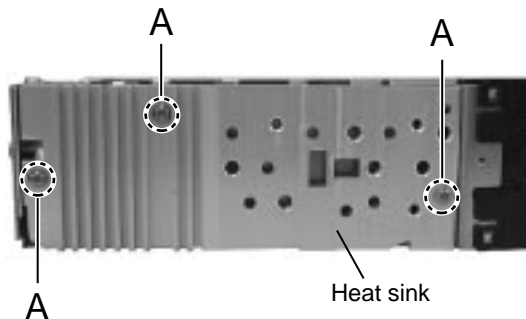

Fig. 3
■ Removing the heat sink (See Fig.3)